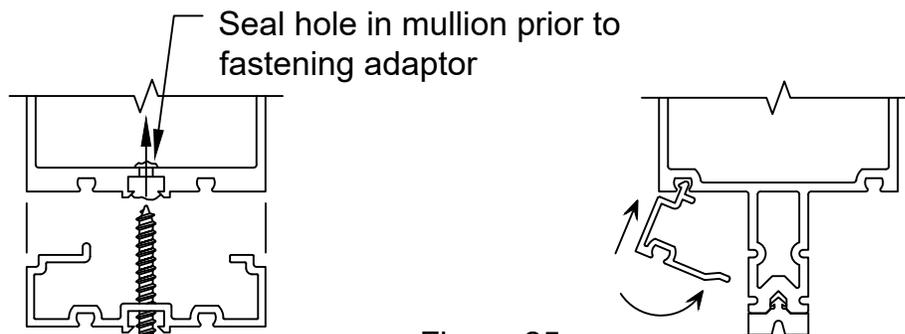

Figure 25
- A.1 Install vertical adaptors first, leaving an equal overlap into each pocket. For captured verticals and all horizontals, insert the hook side into the glazing reglet, then insert leg into reveal on mullion. SEE FIGURE 25. Refer to VERTICAL SPLICING, page 34 & 35 if vertical mullion is spliced within a spandrel lite. Transition adaptors must be installed after mullion splice is sealed.
- A.2 For SSG mullions, install locator leg into one of the glazing reglets. Secure to mullion with FS-318 #12 x 1 3/4" Phillips Flat Head screw 3" from the ends and 12" O.C. SEE FIGURE 25.